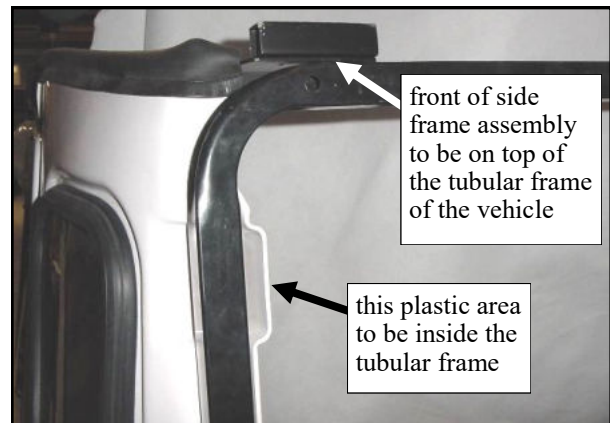

Fig. 3.2 (view taken from front of passenger's side)
3.2 With assistance, install the passenger's side side frame assembly on to the vehicle by first placing the floorboard of the side frame assembly onto the floor of the vehicle, positioning the front portion of the front panel in place first (inside the front roof support tube), then swinging the back side into place. The lower rear panel and slotted mount should sandwich between the seat back and the frame. See figures 3.2, 3.2.1, and 3.2.2. When done fitting it up, temporarily install a drift pin, a screwdriver, or one of the long bolts provided into the vertical through holes in the top front corner to prevent the passenger's side side frame assembly from falling while working on the driver's side. Install the driver's side side frame assembly.